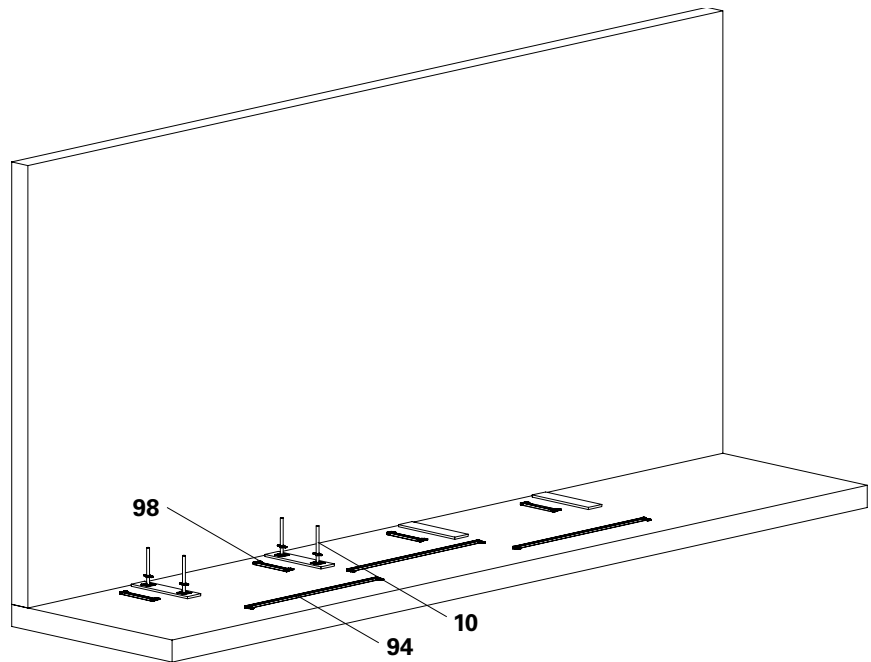

Fig. B2.01
4. Set up the Base Spindles UJB (**10**). (Fig. B2.01)